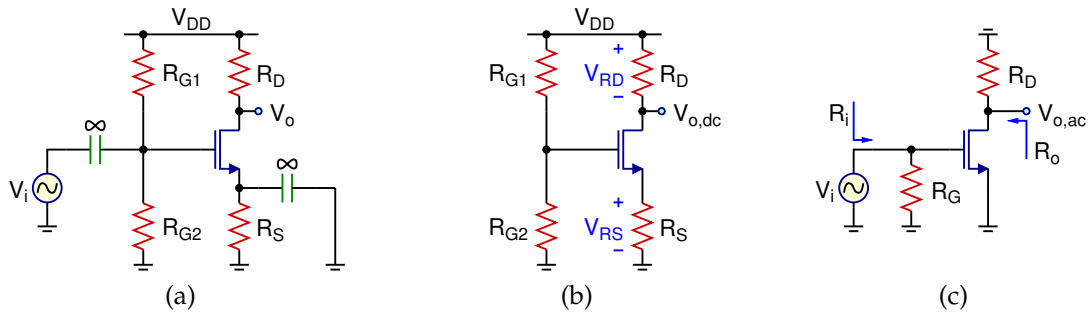

Figure 3: (a) NMOS Common-Source Configuration (b) DC equivalent (c) AC equivalent
Figures 3 and 4 show the common-source configurations for NMOS and PMOS transistors, respectively. AC analysis of this configuration yields
Based on the typical specifications, design procedure for the common-source amplifiers in Figs. 3 and 4 can be given as follows:
- Using the 2N7000G transistor, design the common-source amplifier in Fig. 3(a) with the following specifications:
- Draw the common-source amplifier schematic in Fig. 3(a) using the calculated component values and 2N7000G transistor.
- Build the common-source amplifier in Fig. 3(a) using the simulated component values and 2N7000G transistor.
3. For the common-source amplifier in Fig. 3(a):